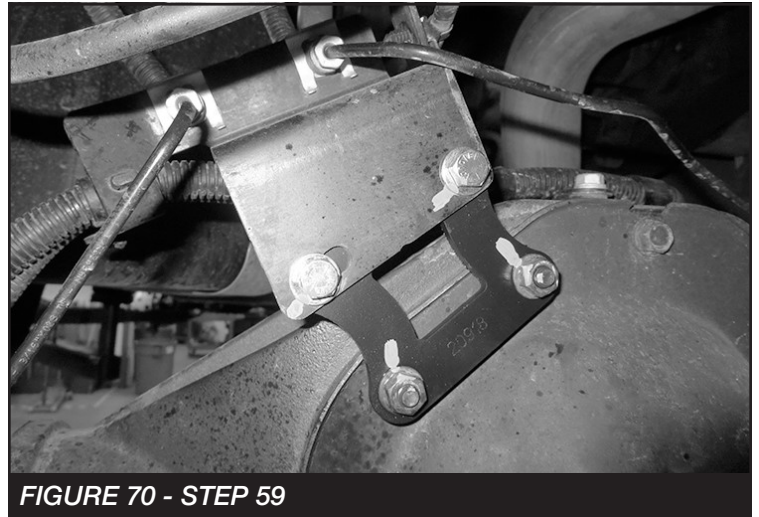

FIGURE 70 - STEP 59
59. Disconnect the brakeline bracket from the rear axle differential. Install FT20918 (Brake Line bracket) using the factory hardware. Then, install the factory brakeline bracket to the new bracket using the supplied 5/16" hardware. Torque to 17 ft-lbs. **SEE FIGURE 70**